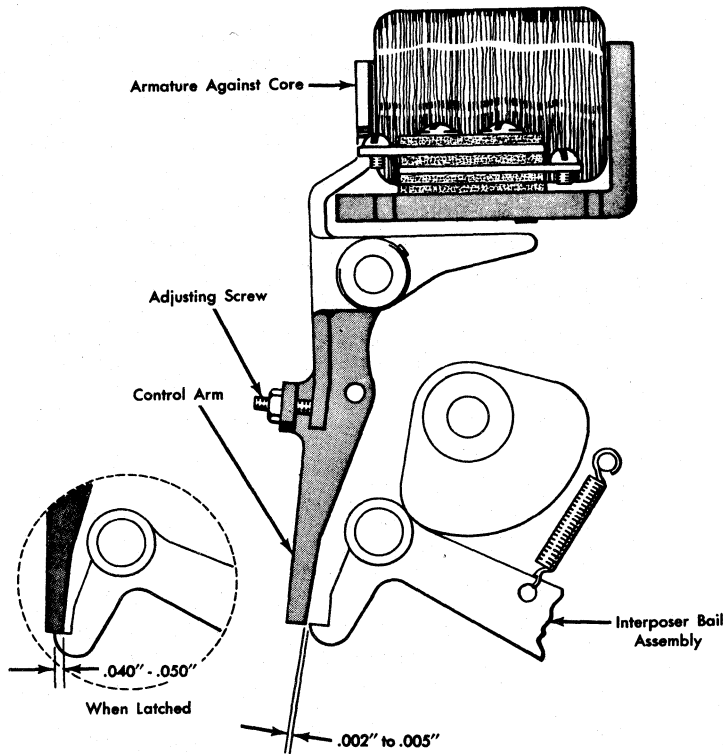

Figure 115. Control Arm Adjustment
2. Set adjusting screw in control arm to provide .002-inch to .005-inch unlatching clearance between control arm and interposer bail (Figure 115). This should provide .040-inch to .050-inch latching overlap when magnet is de-energized.